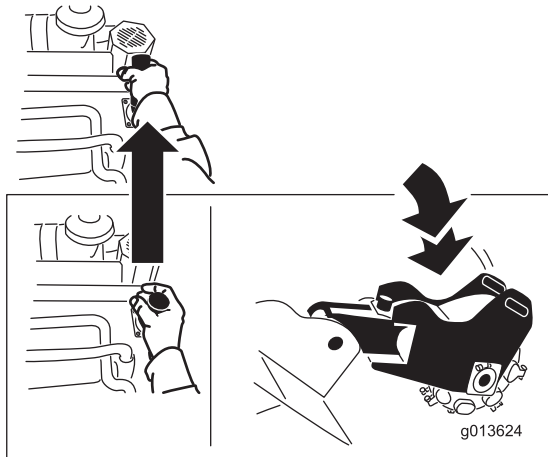

Figure 14
- To lower the grinder, push the lever forward (Figure 14).